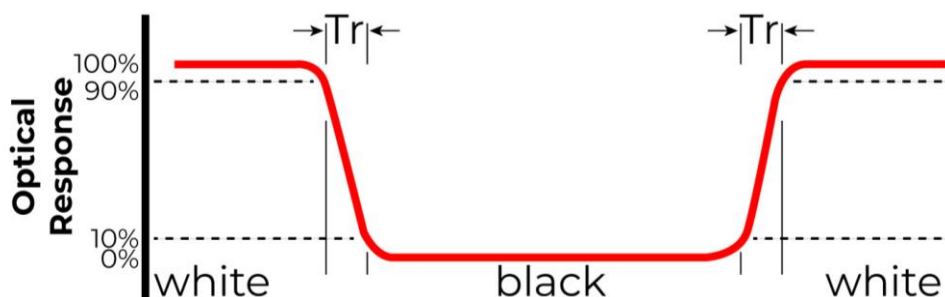

Figure 2. The definition of response time
| Response Time              | Tr+Tf    | $\theta=0^\circ$$\phi=0^\circ$$T_a=25^\circ\text{C}$ | -    | 25   | 35   | ms                | FIG 2. | 4, 7 |
**Note 1.** Contrast Ratio (CR) is defined mathematically as below, for more information see Figure 2.
**Note 2.** Surface luminance is the LCD surface from the surface with all pixels displaying white. For more information see Figure 2.
**Note 3.** The uniformity in surface luminance  $\delta$  WHITE is determined by measuring luminance at each test position 1 through 5, and then dividing the minimum luminance of 5 points luminance by maximum luminance of 5 points luminance. For more information see Figure 2.